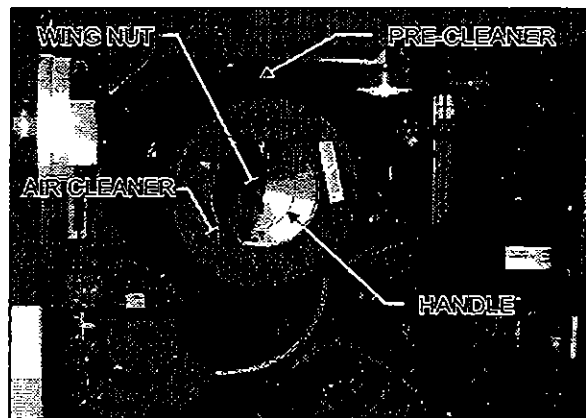

Figure 3 : Air Cleaner Location
1. Open the condenser door (refer to "Operator's Manual" for details). Remove the fuel access panel. Locate the fuel tank line connections (Fig. 3).